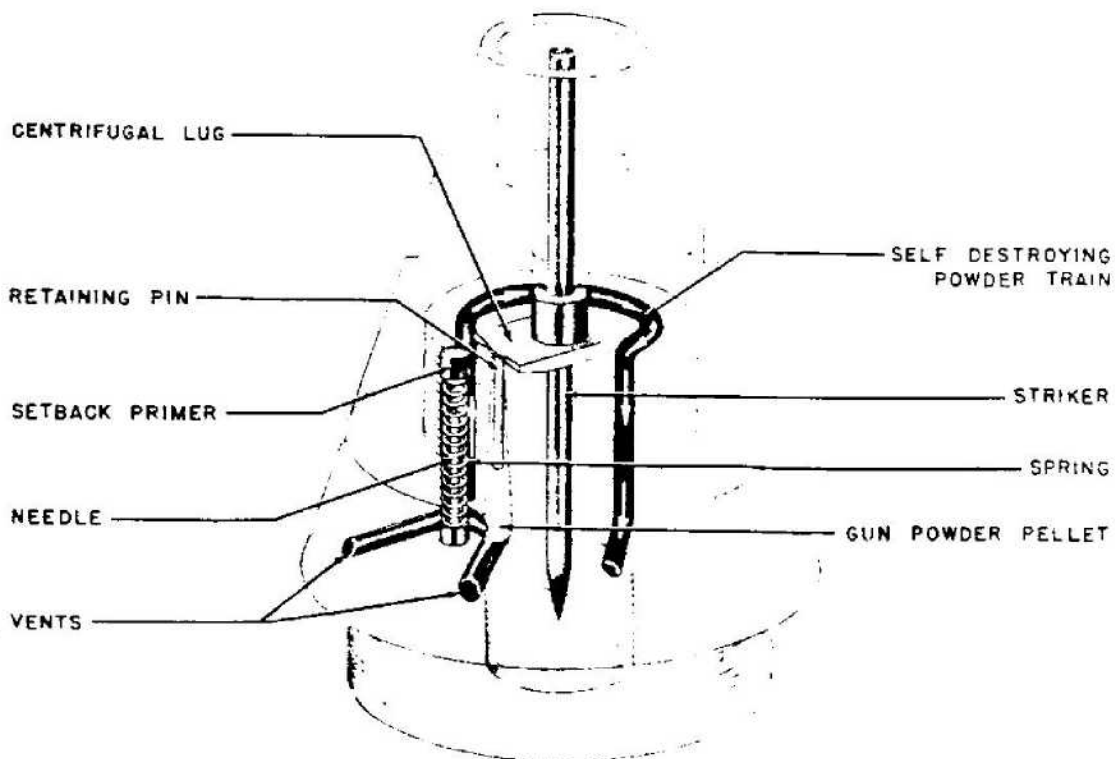

Figure 564—K. Z. 40
**EMPLOYMENT:** Mechanical Nose Fuze with self-destroying arrangement for 3.7-cm H. E. shells. (See fig. 564.)